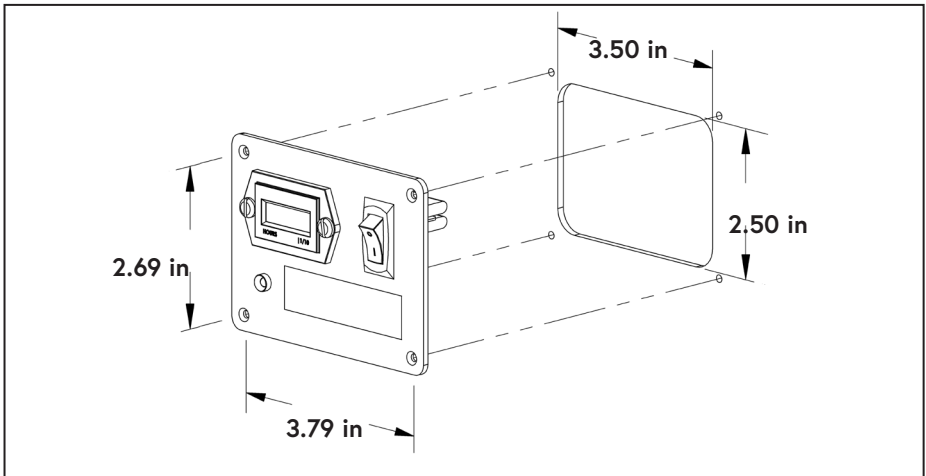

Figure 40 — Interface Panel mounting dimensions
- Install the Interface Panel in a suitable location (Figure 40).